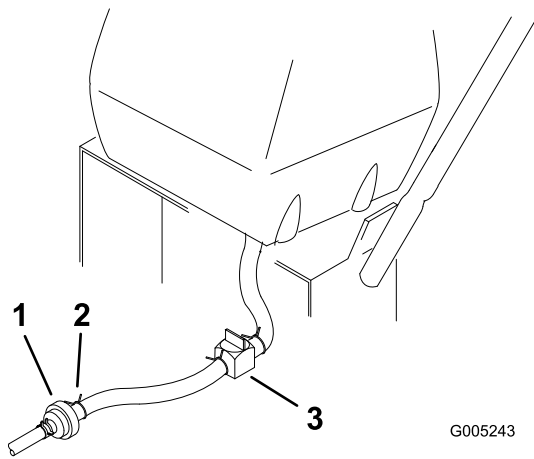

Figure 29
- Close the fuel shut-off valve at the fuel tank (Figure 29).
- Squeeze the ends of the hose clamp together and slide it up the fuel line away from fuel filter (Figure 29).
- Pull the fuel line off the fuel filter (Figure 29). Open the fuel shut-off valve and allow the gasoline to drain into a gas can or drain pan.
3. Close fuel shut-off valve at the fuel tank (Figure 29).
7. Open fuel shut-off valve at fuel tank (Figure 29).